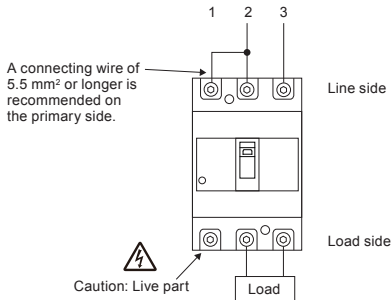

Figure 1. Connection method in a single-phase two-wire circuit
- If using MDU Breaker with a single-phase two-wire circuit, connect it as shown in Figure 1. The left pole (1-phase) load side is a live part, so be sure to insulate it.